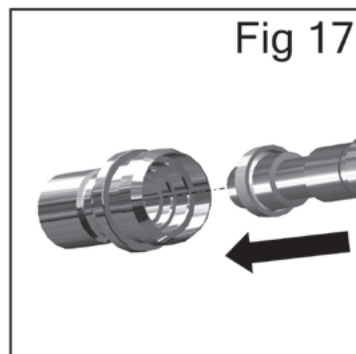

Fig 17
15. Fit new seal(22) to service tool (44). Groove must face outwards. Press seal (22) to housing (27). (See fig 17)
16. Reassemble remaining parts in reverse order — valve (20), spring (21), housing (27) and tighten with 6mm hex key, needle (24) spring (29) and knob (28). Replace trigger (39), fitting trigger stud (40), screw in the trigger screw (38) with Torx T20 tool.
17. Trigger gun fully and screw in fluid adjusting knob (28) until it stops. Back it off 1/2 turn and gun will have full needle travel.